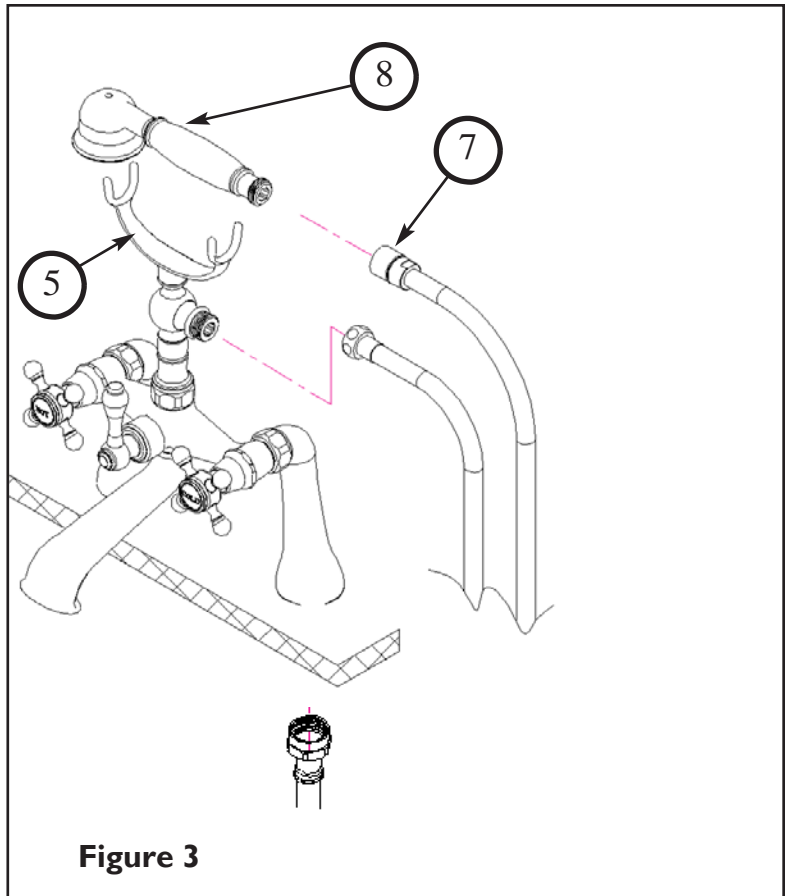
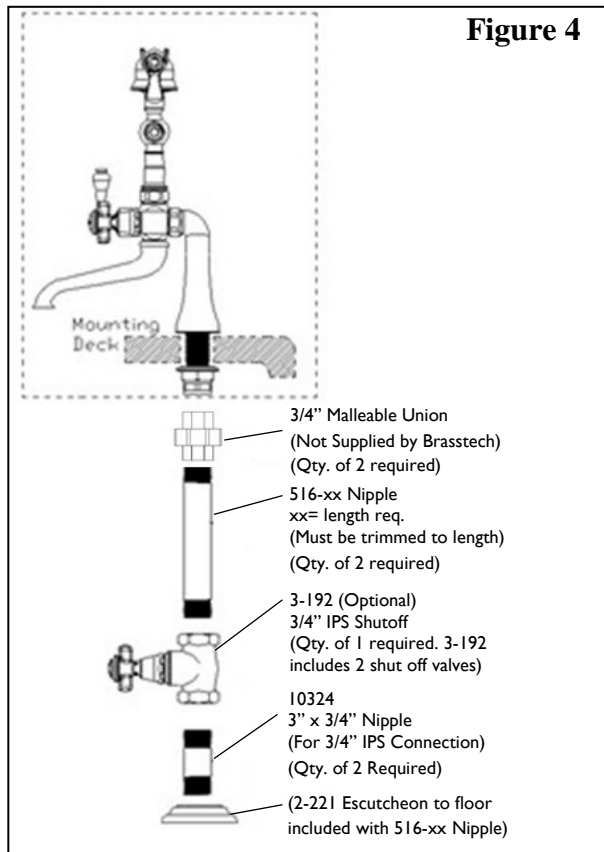

Figure 3
Figure 4
3. Attach the flex HOSE (7) to RISER (5) and hand SHOWER (8). (Hand-tighten and secure each connection with a wrench 1/4 turn.) See Figure 3.
4. Connect hot/cold water supply to appropriate 3/4" NPSM valve BODY (6), utilize adapter I 1068 if 3/4 NPT is required. Supply risers not included. See Figure 3. For exposed installation see Figure 4.